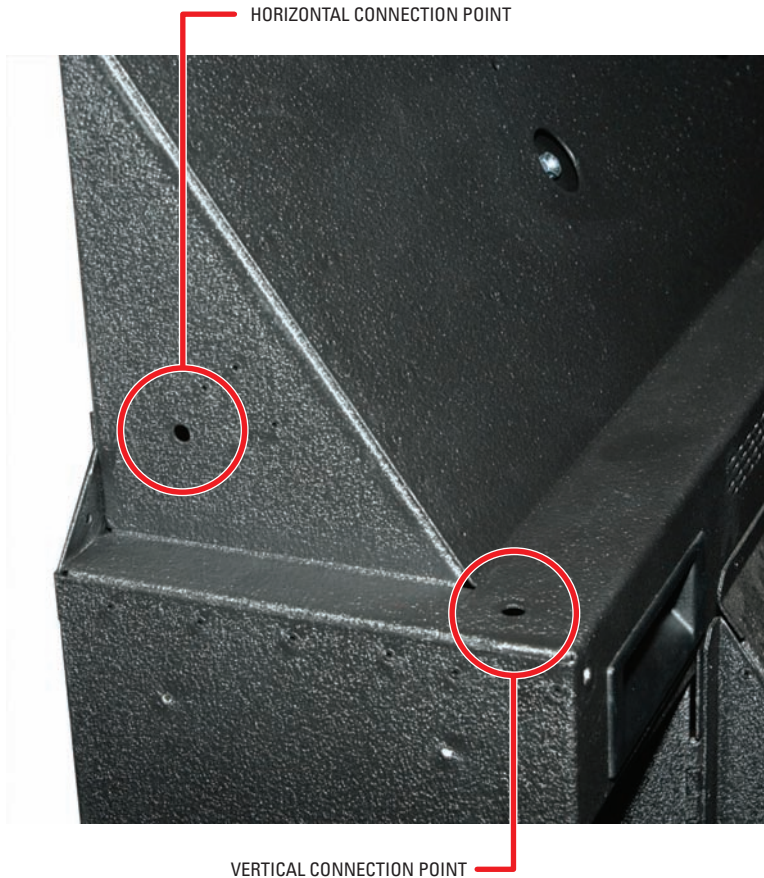

Figure 5. Vertical and Horizontal Connection Points
3. Bolt the PMCD750 units together vertically through the vertical connection points using the 1/4-20 x 3/8-inch bolts. Refer to Figure 5.
5. Bolt the PMCD750 units together through the horizontal connection points using the 1/4-20 x 2-inch bolts, washers, and wing nuts. Refer to Figure 5.